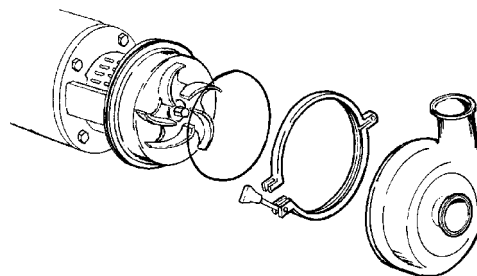

Figure 31 - Remove Casing Clamp, Casing and O-ring
2. Remove the casing clamp, casing and O-ring from the housing flange. (Figure 31).